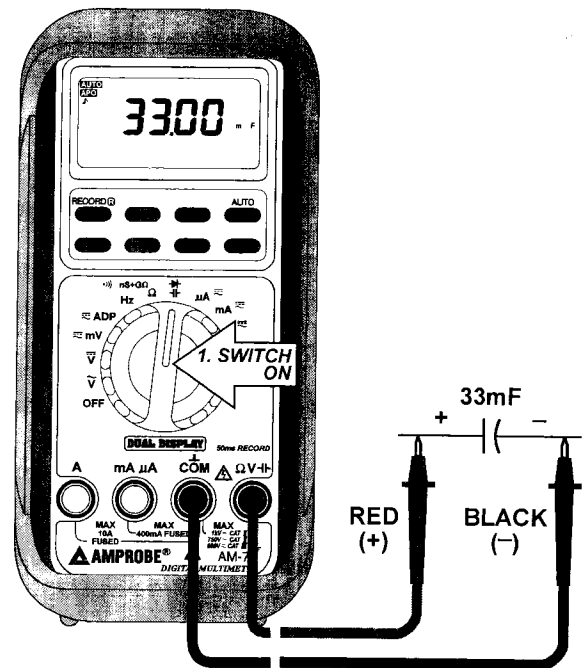

FIG 10. $\text{--}\text{||}\text{--}$ CAPACITANCE FUNCTION
- 3) Connect the test leads as shown in **FIG 10** and observe the digital display